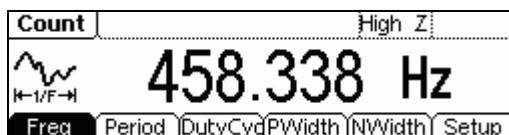

Figure 3-13
- (1) Frequency view: In default state, the measure result is frequency value, see figure 3-13;